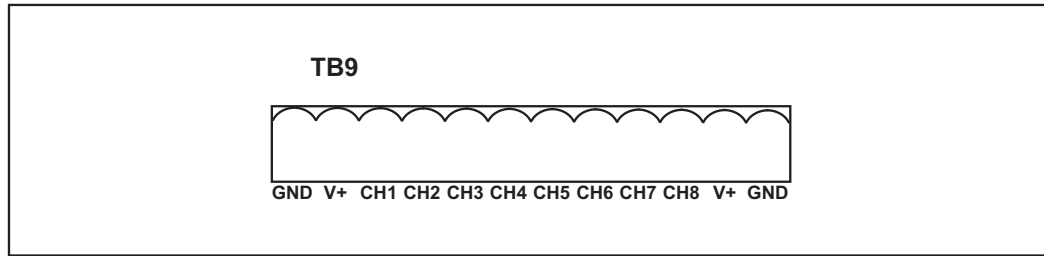
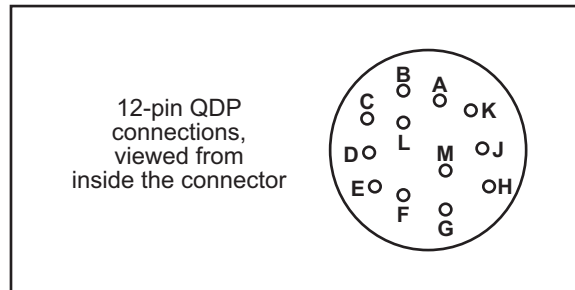

Figure 3-10. Terminal Block TB9 on QDP PC Board: Pin Designations
Figure 3-11. Twelve-pin QDP Connector Pin Locations
2. Wire your die-mounted sensors to terminal block TB9 on the QDP circuit board, referring to Figure 3-10, Figure 3-11, and Table 3-4, page 3-11, for QDP circuit board connections.